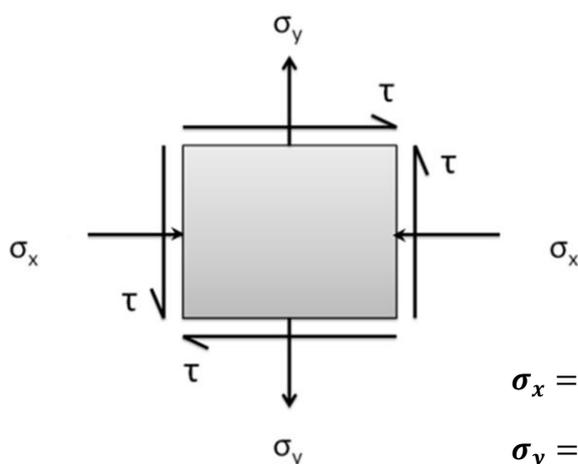

Figure Q1
Q1: An element of a new spacecraft is being designed with a composite fuselage skin that is made from multiple layers of graphite reinforced epoxy. The fibres will be placed in different directions. The element is subjected to a two-dimensional stress system as shown in figure Q1.
b) Sketch a Mohr's Stress Circle from the information provided in figure Q1, labelling σ_1 , σ_2 the principal stresses and the maximum shear stress τ_{max} . Verify the results found in part a). **(8 marks)**